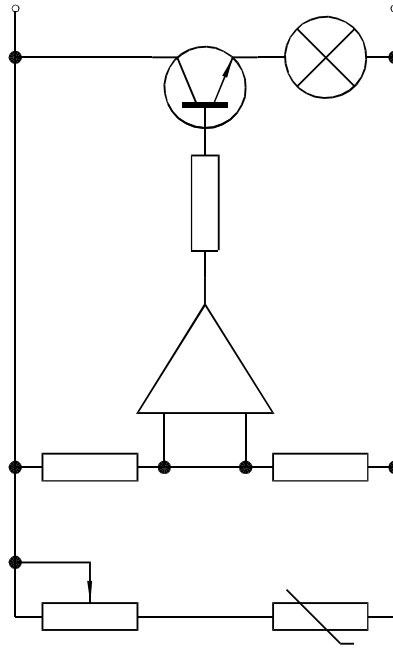

Fig. 9.24 Exercise 4
4. Construct the electronics circuit given in Fig. 9.24 from the file Fig. 17.dwg using the DesignCenter.